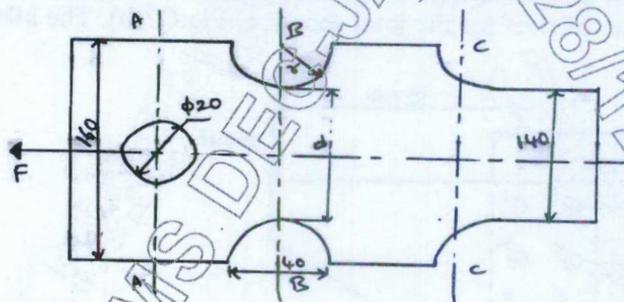

Fig.Q2(b)
- A flat bar shown in Fig.Q2(b) is subjected to an axial load of 100 kN. Assuming that the stress in the bar is limited to 200 N/mm², determine the thickness of bar.